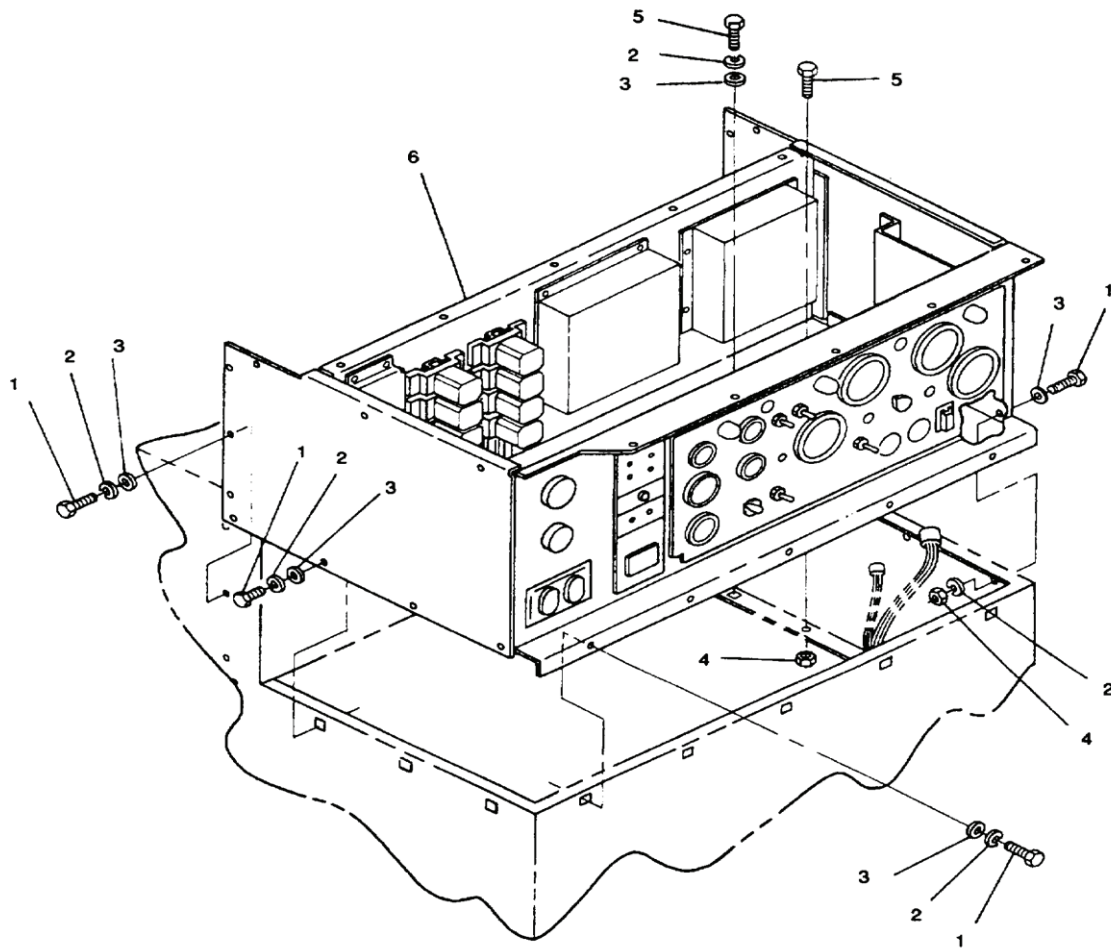

Figure 1. Control Box Assembly.
5. Remove bolts (Figure 1, Items 1 and 5), lockwashers (2), flat washers (3), nuts (4), and control box assembly (6) from generator set. Discard lockwashers (2).
1. Install control box assembly (Figure 1, Item 6) on generator set with bolts (1 and 5), flat washers (3), new lockwashers (2), and nuts (4).